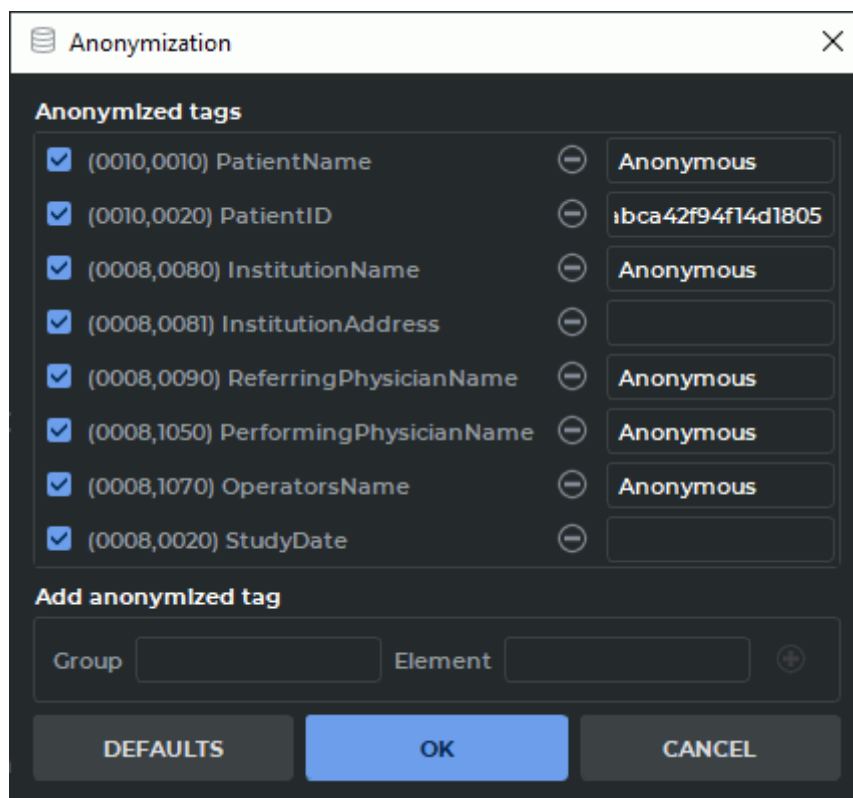

Figure 16.3: Dialogue of anonymization
3. To add a tag to anonymize, type the group number to the **Group** field and type the element number to the **Element** field and click the  button (Fig. 16.3).
The tags with the data that matches the data contained in the anonymized tags are automatically added to the **Anonymization** box (Figure 16.3). By default, the added tags are ticked. To anonymize the tags, click **OK**; to cancel, click **CANCEL**.
4. To add a tag to anonymize, type the group number to the **Group** field and type the element number to the **Element** field and click the  button (Fig. 16.3).